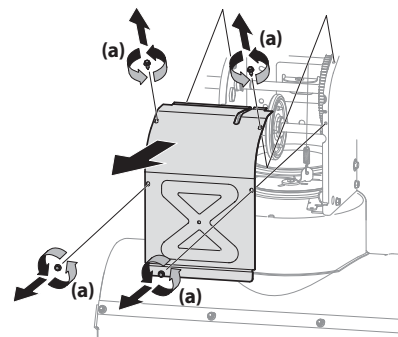

Figure 4-4
3. Remove frame cover from underside of unit by removing self-tapping screws (a) which secure it. Refer to Figure 4-4.
- Remove frame cover from underside of unit by removing self-tapping screws which secure it. See Figure 4-4.